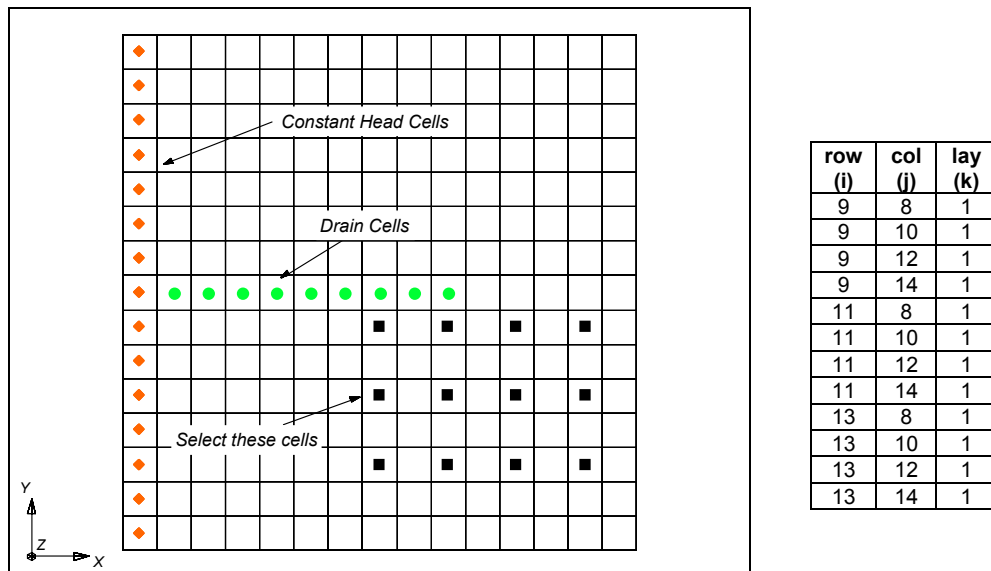

Figure 2-3 Cells to be Selected on Top Layer
1. While holding down the *Shift* key, select the cells shown in Figure 2-3.